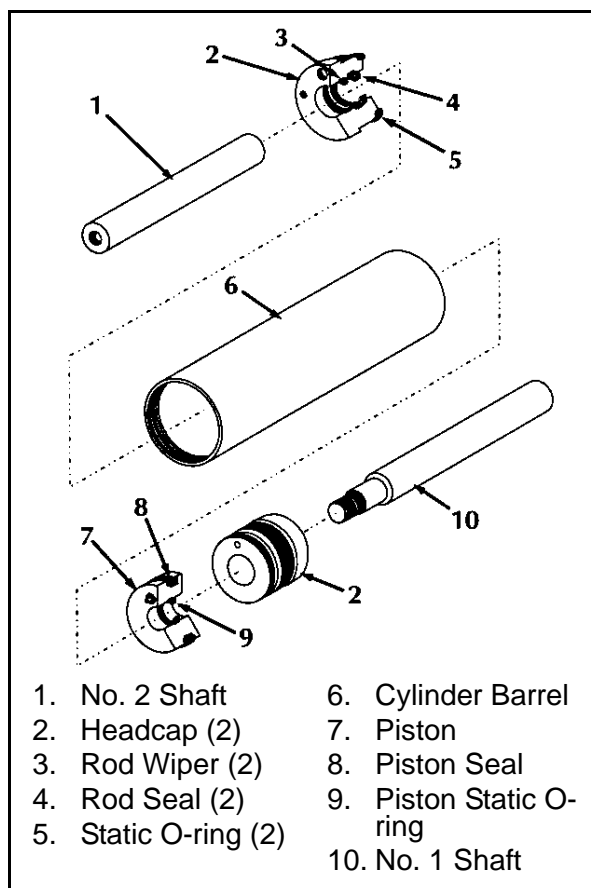

Figure 0-5: Steering Cylinder Assembly
0.4 STEERING CYLINDER (FIGURE 0-5)